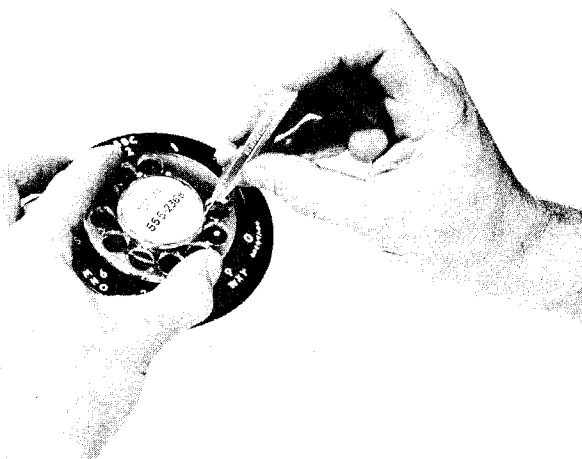

Fig. 17—Removing Plastic Fingerwheel
- (1) Rotate fingerwheel in clockwise direction as far as possible.
- (2) Insert KS-16750, List 2 releaser into small hole located in edge of raised center of fingerwheel, as shown in Fig. 17 and push down to disengage the fingerwheel clamp spring. Continue to rotate the fingerwheel in a clockwise direction.
- (3) When clamp spring releases, remove fingerwheel and dial will return to normal.
- (b) To remove number plate on a dial with a plastic fingerwheel, follow the sequence in Fig. 17, 19, 20, and 21.